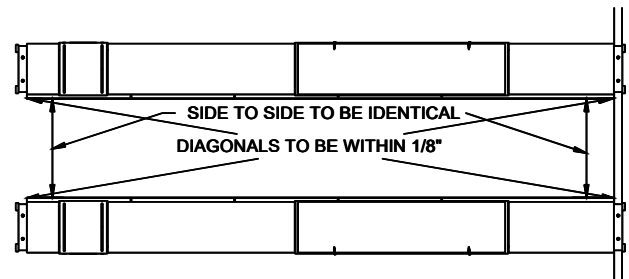

Fig 14 – Final Runway Positioning
- 17) Check the layout of the lift in the bay. **(This is the last opportunity to reposition the lift. Take a moment to determine the position of the front column anchors to ensure proper clearance from any crack, edge, or expansion joint. Ensure proper clearance for the lift operator at the Power Unit Controls.)** Adjust the position of the runways so the distance from power side jack rail to idler side jack rail is the same at the front and rear and the diagonal measurements from the front tip of one rail to the rear tip of the opposite rail are within 1/4", **Fig 14**.
- 48) Recheck the four runway measurements from **Fig 14**.
- 50) After properly shimming column plumb, loosen anchors and add one shim to both of the two inside anchors to lean the column outward slightly. Make sure lower Slide Blocks are in contact with column and torque all anchor bolts to 150 foot-pounds, **Fig 14**.